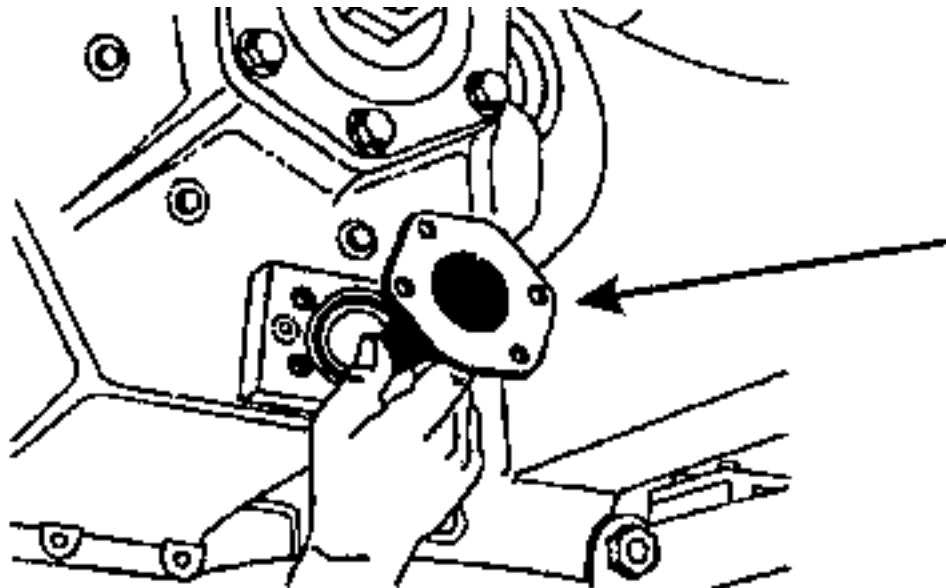

Fig. 5.49. Transmission Scavenger Oil Strainer
**5.18.5. SERVICING THE TRANSMISSION SCAVENGER STRAINER (Fig. 5.49)**